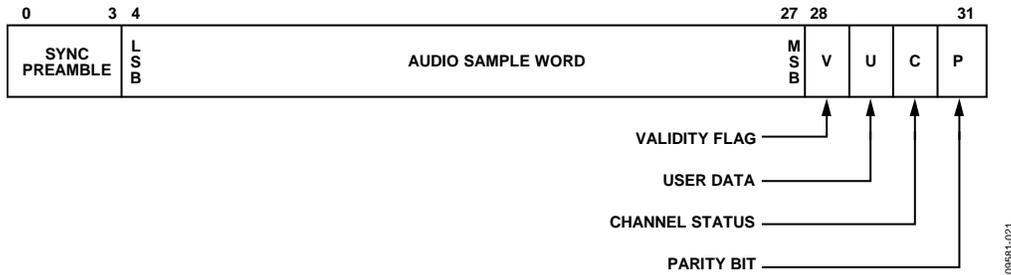

Figure 23. IEC 60958 Subframe Timing Diagram
- A stream conforming to the IEC60958 specification when the part receives audio sample packets with L-PCM encoded data (refer to Figure 23).
- An SPDIF stream conforming to the IEC60958 specification (refer to Figure 23). The following configuration is required to output an SPDIF stream on the HBR output pins: